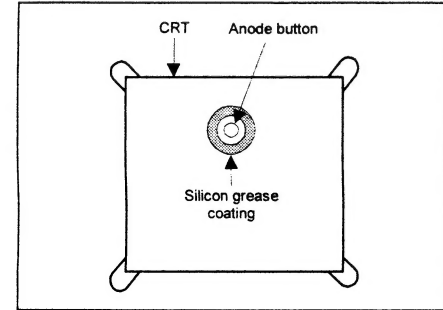
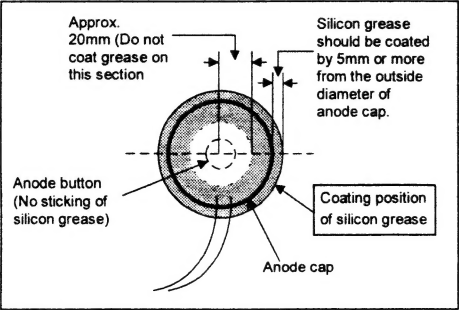

Fig. 7
Fig. 8
- Subsequent to replacement of the CRT and HV transformer or repair of the anode cap, etc. by dismantling them, be sure to coat silicon grease for electrical insulation as shown in Fig.7. Wipe around the anode button with clean and dry cloth. (Fig.7) Coat silicon grease on the section around the anode button. At this time, take care so that any silicon greases dose not stick to the anode button. (Fig.8)